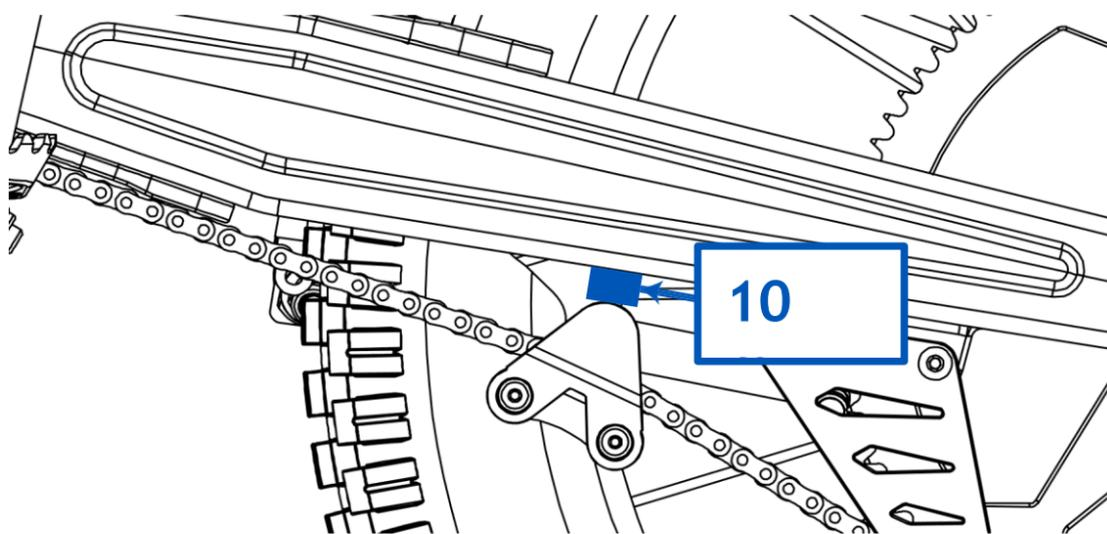

Fig. 18
- Check the chain slack, so that the chain has a play as indicated in this manual, 10 mm (Fig. 18). To check this, you must turn the wheel and check the slack several times, always measuring from the same point. The chain must not have too much play or too much stiffness.